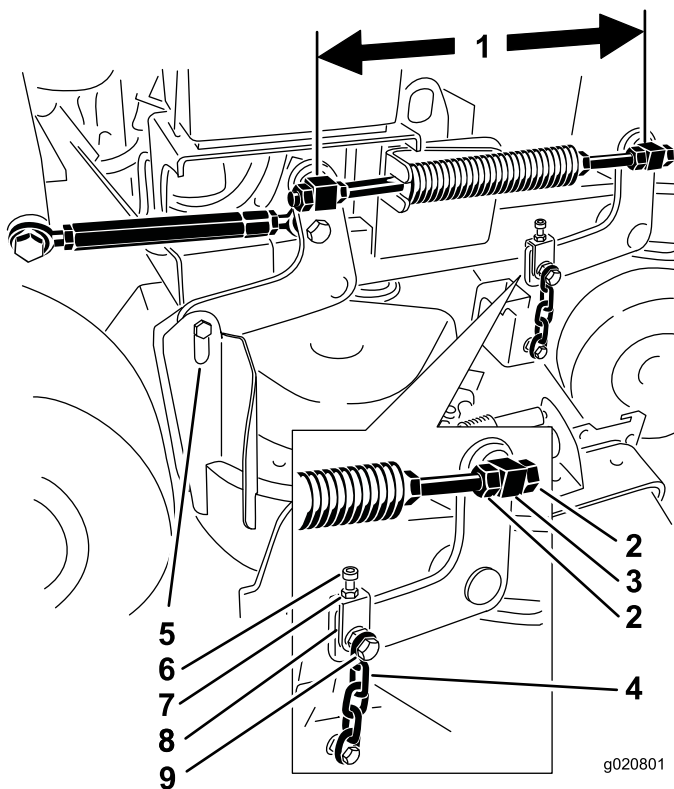

Figure 80
1. Check the distance between the swivels, measuring at the center of the swivels (center-to-center length) on each threaded rod (Figure 80).
2. Loosen the jam nuts at the **front** swivel (Figure 80).
4. Tighten the jam nuts at the **front** swivel (Figure 80).
6. If adjustment is needed, loosen the upper chain bolt (Figure 80).
4. Loosen the jam nuts at the right and left front swivels (Figure 80).
6. Tighten the jam nuts at the right and left front swivels (Figure 80).
4. Loosen the jam nuts at the left, front swivel (Figure 80).
6. Tighten the jam nuts at the left front swivel (Figure 80).
5. Loosen the upper chain bolts (Figure 80).
6. Loosen the jam nuts on each yoke (Figure 80).
8. Tighten the jam nuts and upper chain bolts (Figure 80).